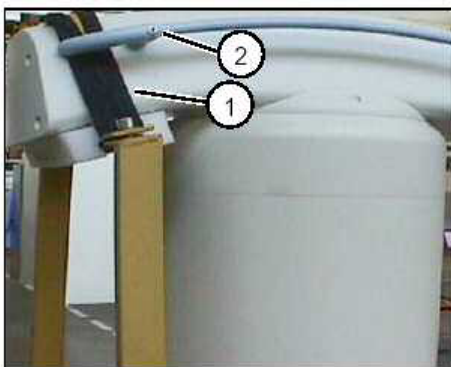

Fig. 6: Transport clamp
- To remove the transport clamp (1/Fig. 6 / p. 6), the front fastening screws (2/Fig. 6 / p. 6) of the railings must be **loosened** on both sides of the C-arm.
- Unscrew and remove the transport clamp (1/Fig. 6 / p. 6).
- Subsequently retighten the fastening screws (2/Fig. 6 / p. 6).